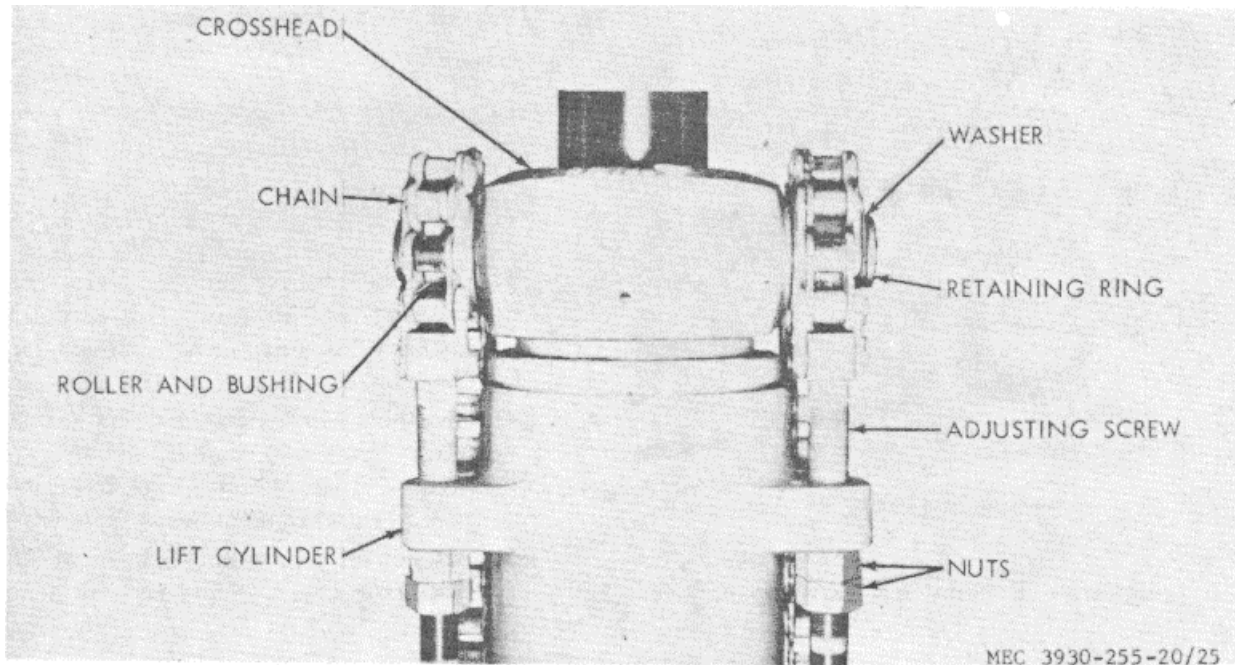

Figure 25. Crosshead, rollers, and chains.
- (1) Lower carriage fully, remove nuts (fig. 25) from chain adjusting screws, and lay chains back out of way.
- (2) Remove retaining rings, washers, rollers, and bushings from crosshead.
- (1) Reverse procedures in a above.
- (2) Adjust nuts on chain adjusting screws (fig. 25) so each chain begins lifting at same time.